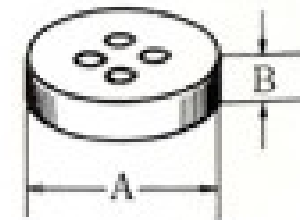

Fig. 35
To obtain the length of the cutting space, the opening through which the button passes is measured by adding the width (A) and thickness (B) of the button. Fig. 35.